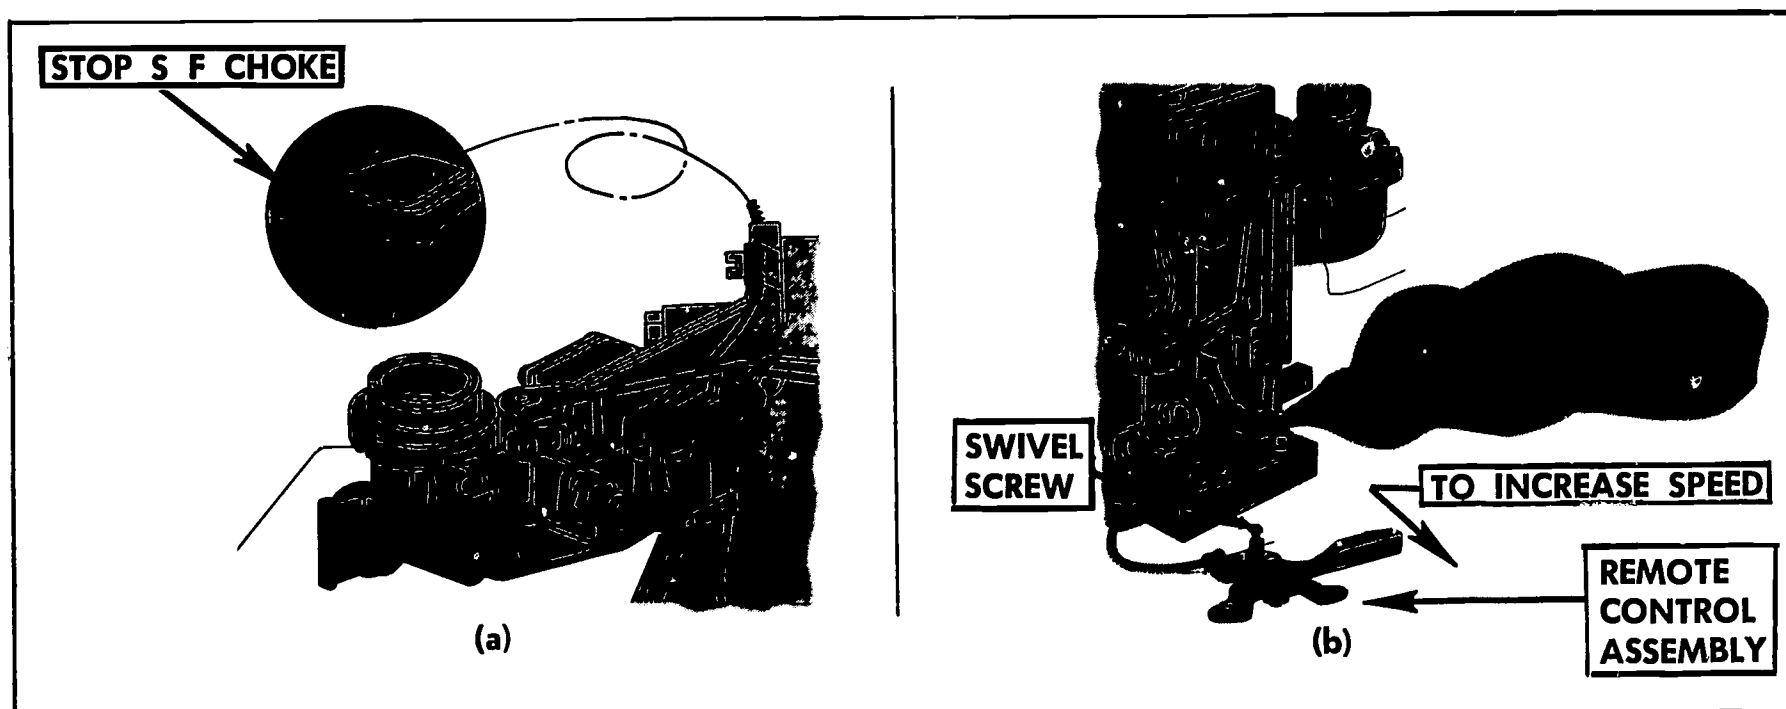

FIGURE 158. Examples of remote choke-control linkages. (a) Combination throttle-and-choke control. (b) Throttle control.
4. *Connect the choke and throttle linkage (Figure 158).*